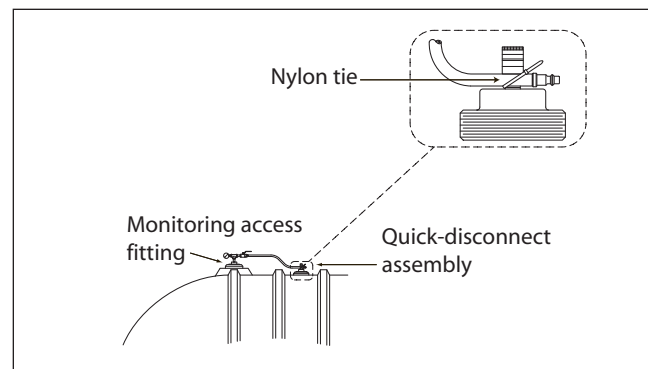

FIGURE 3-3
3.5.1. Install the test manifold in the open service fitting and connect the pressure source to the test manifold. See FIGURE 3-3.
3.6.1. Tanks with a dry interstitial space not shipped under vacuum come with a quick-disconnect assembly. See FIGURE 3-3.
3.6.2. If the tank is not configured as shown in FIGURE 3-3 prior to preinstallation testing, contact the plant from which the tank was shipped.